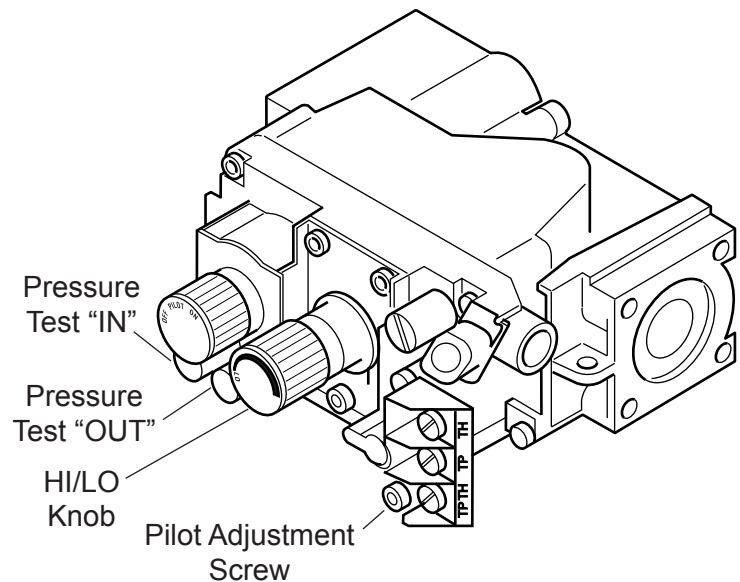

Figure 42 - Gas Pressure Check at Gas Valve
5. To check gas pressures at valve, turn captured screw counter clockwise 2 or 3 turns and then place tubing to pressure gauge over test point. Turn unit to high. *Figure 42*. After taking pressure reading, be sure and turn captured screw clockwise firmly to reseal. Do not over torque. Check test points for gas leaks.